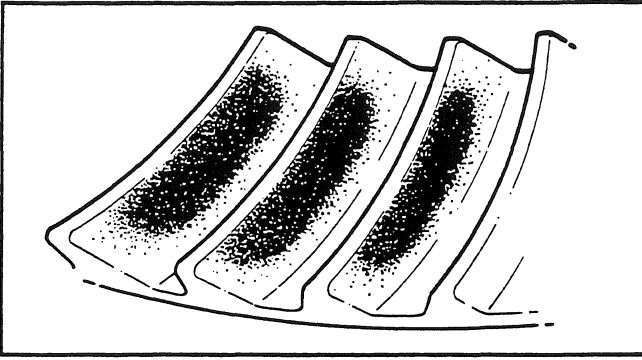

Fig. 80
4. Look at the contact patterns on the ring gear teeth. Compare the patterns to Figs. 80, 81 and 82.
5. For a new gear set, the location of a good hand rolled contact pattern is between the center and toe of the tooth, and in the center between the top and bottom of the tooth (see Fig. 80).